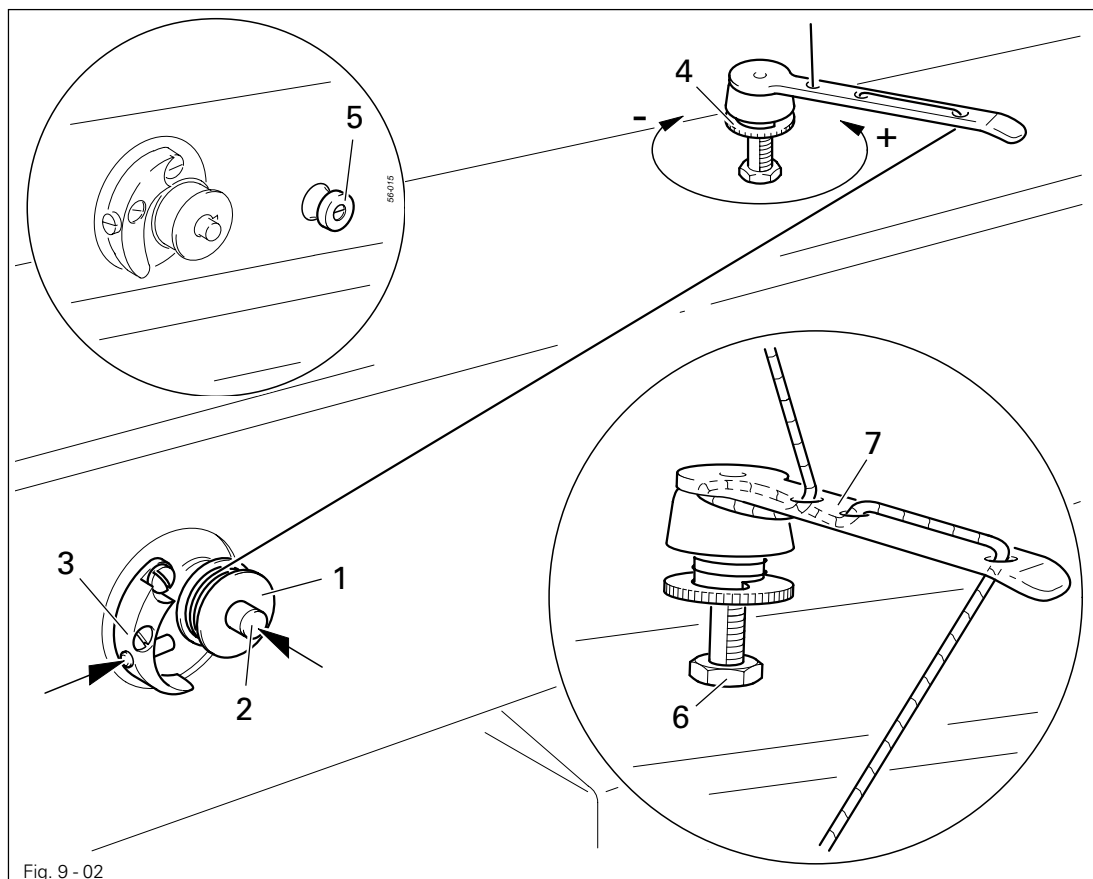

Fig. 9 - 02
- Thread up as shown in Fig. 9 - 02 and wind the thread a few times clockwise around bobbin 1.